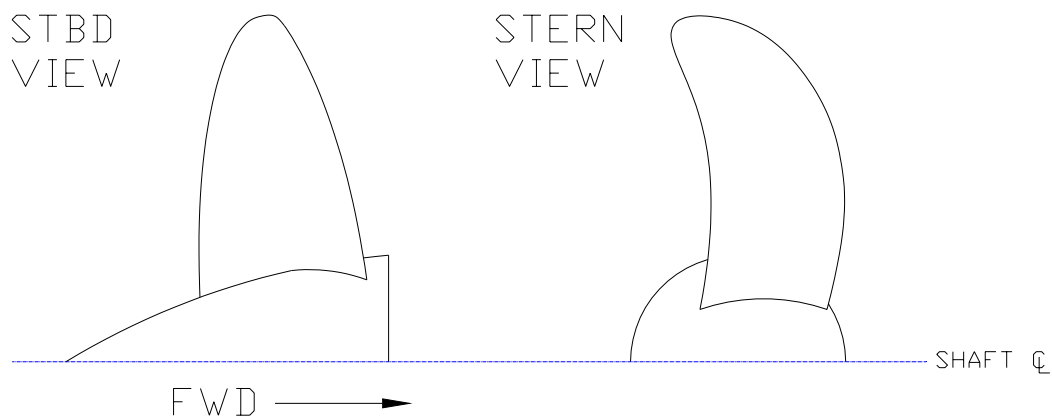

Figure 1 – Stbd and Stern Views of a Propeller Blade
1. Label the following propeller parts on the 2 views provided at Figure 1. Only one blade has been drawn for clarity.
- Trailing Edge (TE) Leading Edge (LE) Propeller Diameter